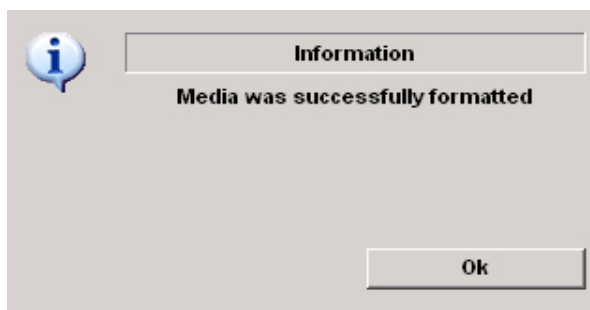

Figure 4-59 Format Successful Pop-up Menu
- 5.) The Ultrasound system displays a pop-up menu, as shown in Figure 4-59 on page 4-27 . When the formatting has been completed, press OK to continue.